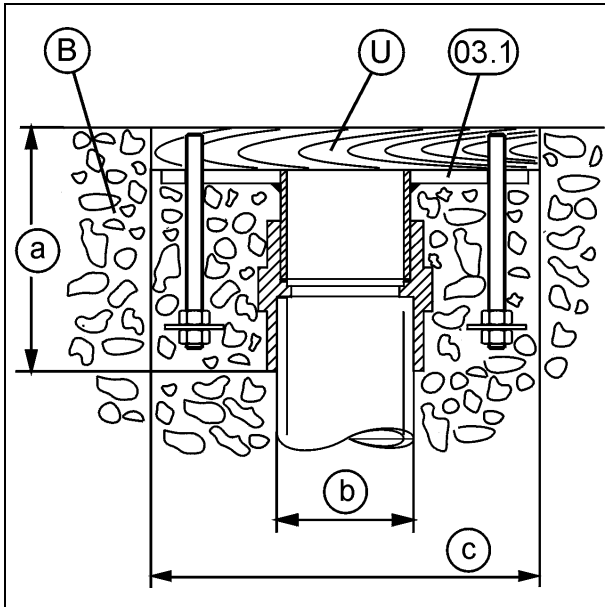
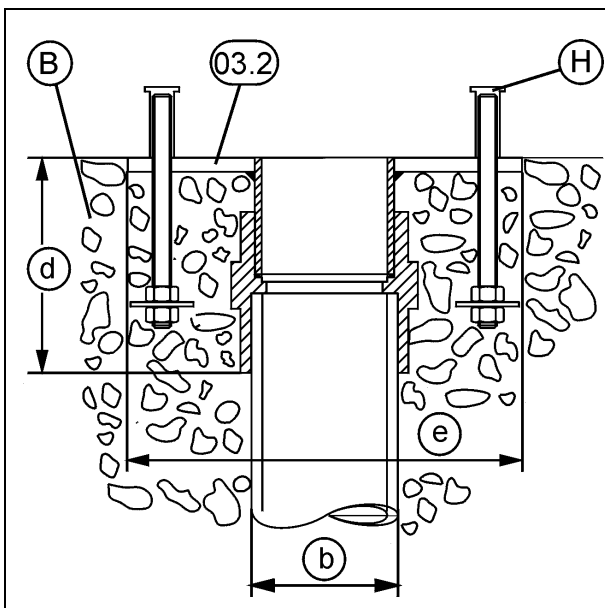

Fig. 1
Fig. 2
The installation kit is available in designs for concrete tile pools (03.1) (Fig. 1) and concrete liner pools (03.2) (Fig. 2).
Remove the cover plate (Fig. 1, item U) from the installation kit (03.1), place the clamp gasket (04) and water curtain (01) or jet (02) on the stud bolts (S) and fasten with the nuts (07) included with delivery.
Remove the protection film and cover sleeve (Fig. 2, item H) from the installation kit (03.2).